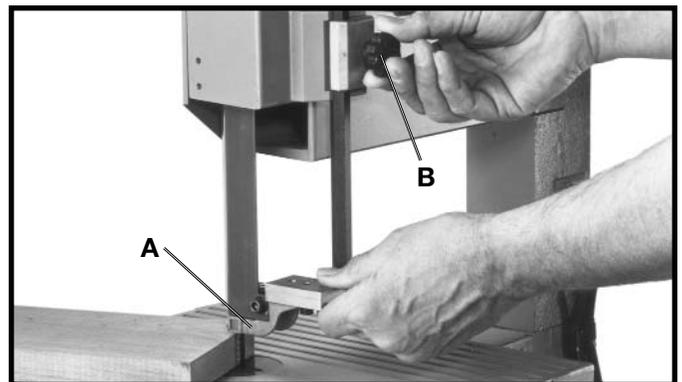

Fig. 20
The upper blade guide assembly (A) Fig. 20, should always be set about 1/8" above or as close as possible to the top surface of the workpiece being cut. Loosen lock screw (B) and position the guide assembly to the desired height and tighten lock screw (B).